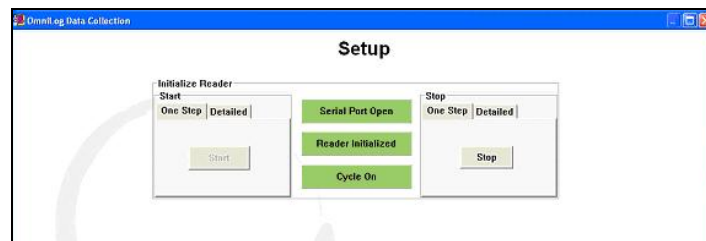

Figure 17 One Step Stop in the Setup Window
- i. Click Stop under the One Step tab in the Stop section (Figure 17).